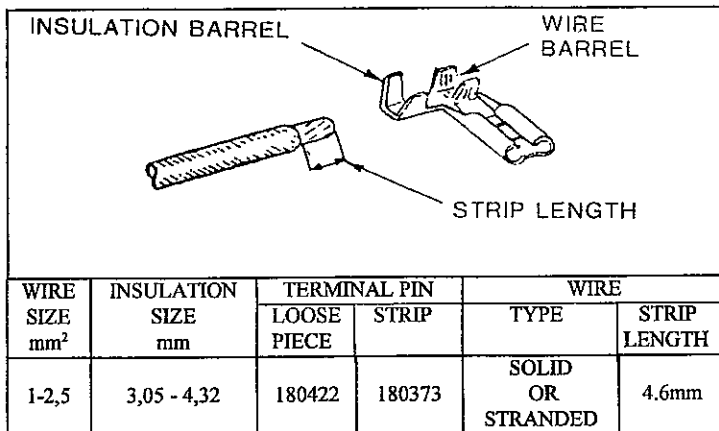

Figure 2
Refer to Figure 2 and select wire of the appropriate size and insulation diameter. Strip the wire to the dimension indicated, taking care not to nick or cut the conductors.
AMP* Hand Crimping Tool 180321 is designed to crimp Flag Faston and Flag Fastin Faston listed in Figure 2.
1. Crimp terminal as listed in Figure 2, using the correct wire size, according to Section 3, CRIMPING PROCEDURE.